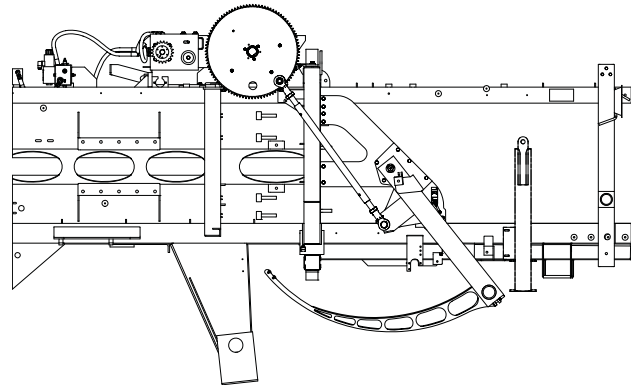

Figure 5-2 Twine Needle Yoke in Home Position
3. Press UP/DOWN arrow buttons to move needle yoke back in home position (see Figure 5-2).
When adjusting the twine fingers, always set the extended position first. This adjustment can be done with the needles in the home position (see Figure 5-2 page 5-2), or with the twine finger cam follower positioned on any of the three high points of the twine finger cam.